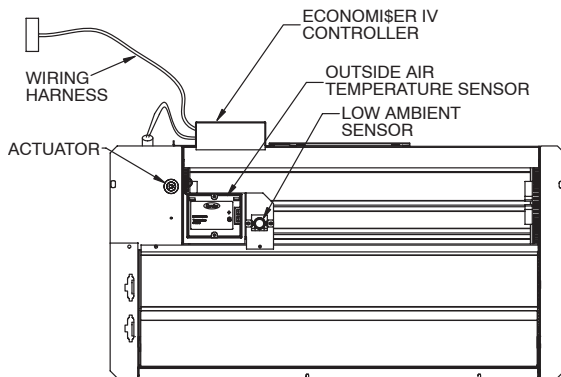
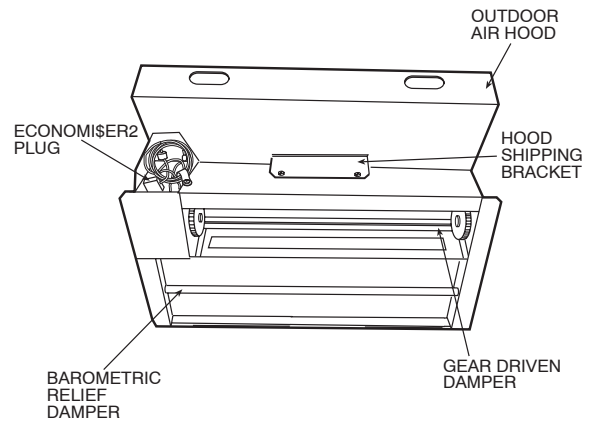

Fig. 22 – EconoMiSer IV Component Locations
Fig. 23 – EconoMiSer2 Component Locations
See Fig. 22 for EconoMiSer IV component locations. See Fig. 23 for EconoMiSer2 component locations.
2. The box with the economizer hood components is shipped in the compartment behind the economizer. The EconoMiSer IV controller is mounted on top of the EconoMiSer IV in the position shown in Fig. 22. The optional EconoMiSer2 with 4 to 20 mA actuator signal control does not include the EconoMiSer IV controller. To remove the component box from its shipping position, remove the screw holding the hood box bracket to the top of the economizer. Slide the hood box out of the unit. (See Fig. 25.)
The outdoor air temperature sensor (HH57AC074) is a 10 to 20 mA device used to measure the outdoor-air temperature. The outdoor-air temperature is used to determine when the EconoMi\$er IV can be used for free cooling. The sensor is factory-installed on the EconoMi\$er IV in the outdoor airstream. (See Fig. 22.) The operating range of temperature measurement is 40° to 100°F.
The EconoMi\$er IV is equipped with an ambient temperature lockout switch located in the outdoor air stream which is used to lockout the compressors below a 42°F ambient temperature. (See Fig. 22.)